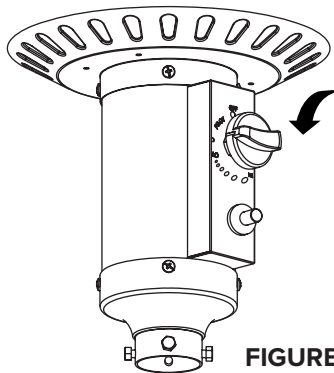

FIGURE 3
- Push in control knob and turn counterclockwise to “PILOT” (Figure 3).